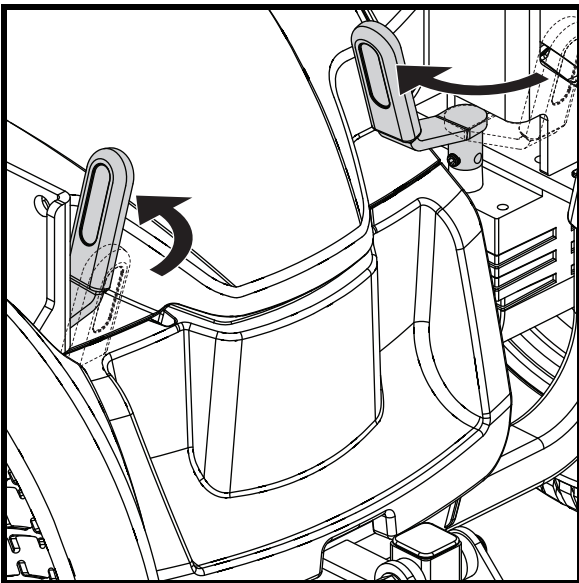

Figure 4. Drive Mode (Drive Engaged)
2. Rotate both levers inward toward the seat to engage the drive motors (drive mode). See figure 4.